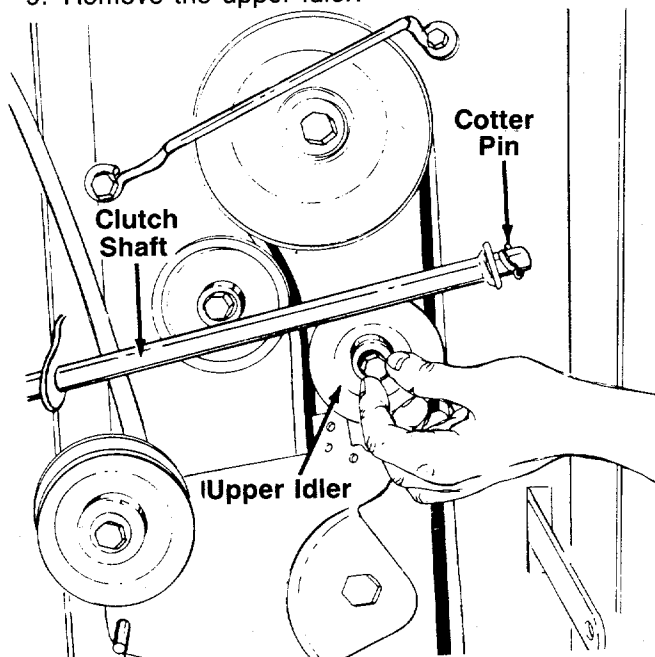

FIGURE 20.
- Remove the cotter pin from the clutch shaft and pull it out of the bracket. See figure 20.